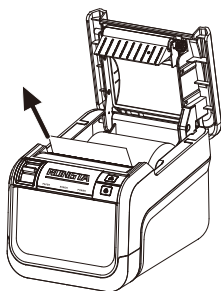

Figure 3
- 3) Pull the paper roll out beyond the tear knife (as shown in Figure 3 below);